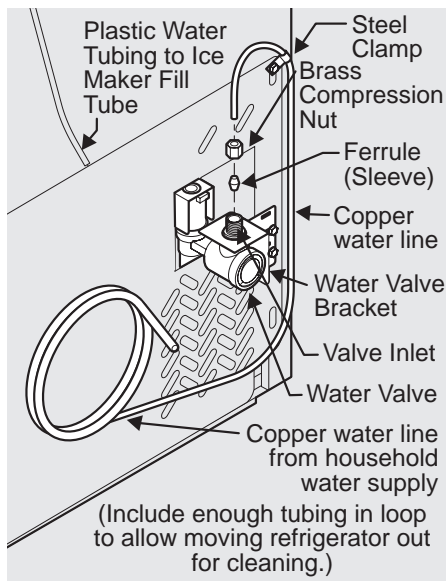

Figure 1
- 4 If you use copper tubing - Slide brass compression nut, then ferrule (sleeve) onto water supply line. Push water supply line into water valve inlet as far as it will go (1/4 inch/6.4 mm). Slide ferrule (sleeve) into valve inlet and finger tighten compression nut onto valve. Tighten another half turn with a wrench; DO NOT over tighten. See Figure 1.